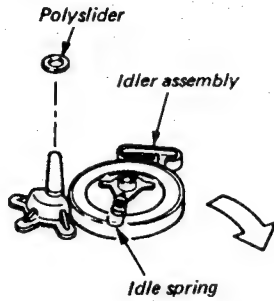

Fig. 1-3-38 Idler assembly replacement (1)
3. Remove the T-reel table assembly as previously stated. (Refer to 1-3-11 (2)).
4. Remove the polyslider. (Fig. 1-3-38)
6. Move the idler assembly in the direction as shown by the arrow. (Fig. 1-3-38).